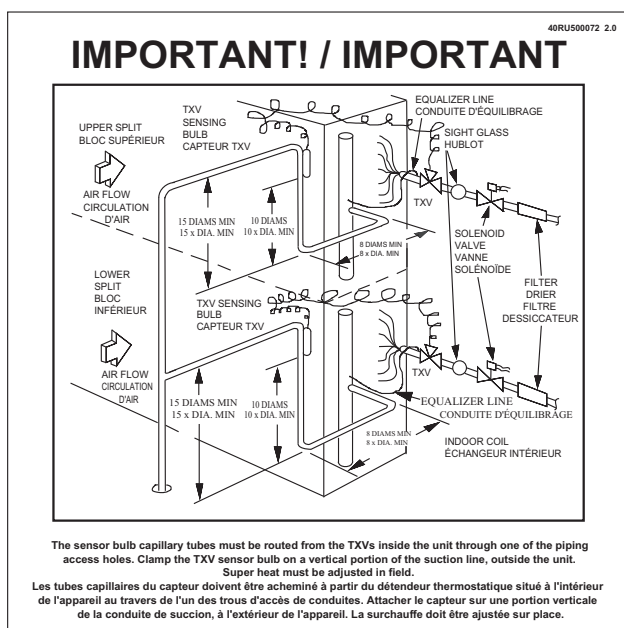

Fig. 34 — TXV Bulb Location Label
- Is TXV bulb located on suction tube per Fig. 34?